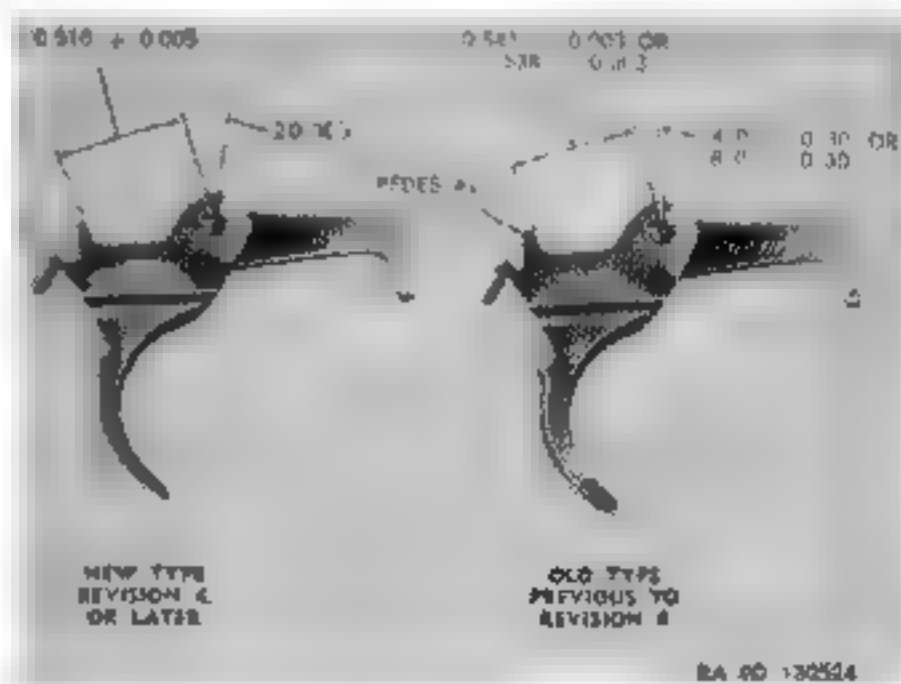

Figure 51. Trigger 6200988.
- (1) A light or heavy trigger pull may be caused by foreign matter or burrs in the sear notch in the hammer, on the nose of the sear, on the top of rear end lip of trigger where the rear end of sear rests, or in the elongated pivot hole in the sear from seating fully in hammer notch. To correct, remove foreign matter or replace with new components from stock.
- (2) A light pull may also be due to a weak or broken sear spring which will not seat the sear fully in the hammer notch before the pressure from hammer spring is applied to the nose of sear through the hammer. Correct by replacing sear spring.
- (3) Uneven surface of hammer notch or worn nose of sear may alter trigger pull. Correct by replacing sear or hammer.
d. *Trigger Hang.* Triggers of early manufacture had a 4- or 8-degree angle on the forward face of the pedestal which was conducive to trigger hang. When trigger hang exists, and it is not due to malfunction of the trigger spring, it can be eliminated by replacing the trigger with one of recent manufacture having an angle of 20 degrees on the forward face of the pedestal (Fig. 51). Surface must be smooth.